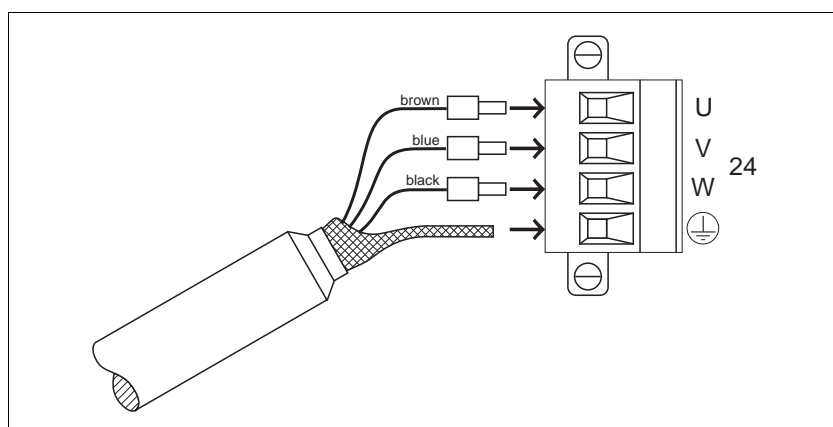

Fig. 2-6 Motor connection
1. Release the two screws of the motor connector and remove the connector (fig. 2-6) from the unit.
4. Fasten the connector to the front panel (item 24) with screws.